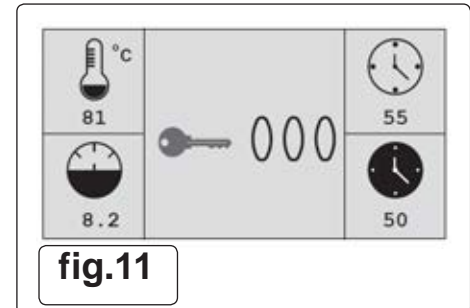

fig.11
6.3.2. **User Menu - Setting(fig.11)**
6.3.3. **To enter the password (111) (fig.11).**